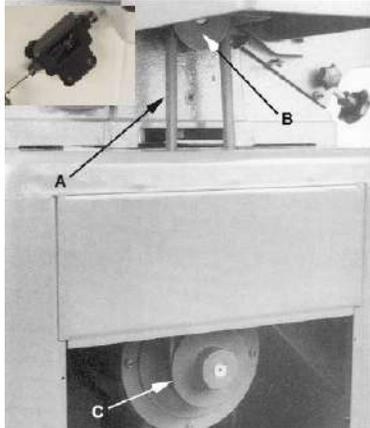
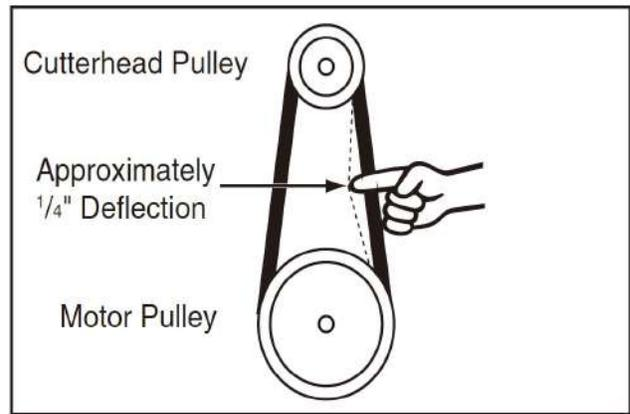

Fig 4
Fig 5
Referring to Fig.3 Fig.4 Fig.5:
5. The V-belt is properly tensioned when finger pressure on the belt half way between the two pulleys causes 6mm(1/4") deflection (Fig. 5). If the belt is too loose, loosen the four motor mount bolts, push down on the motor to tension the Vbelt, and tighten the mounting bolts.